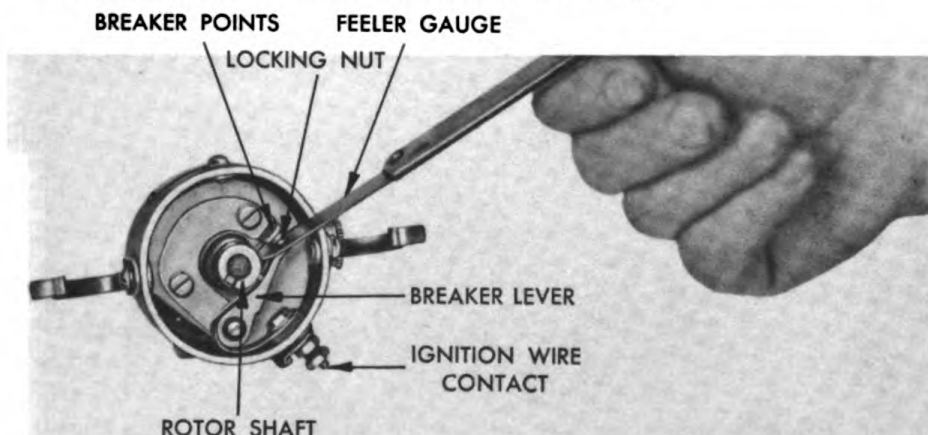

Figure 276. Checking Distributor Contact Gap.
- e. Adjust the contact gap by turning the cam so that the rubbing block is on high point. Adjust the stationary contact so that the gap is approximately .020". Turn the cam and check the alignment of the contacts. Bend the stationary contact bracket to secure perfect alignment. Then turn the cam to the maximum point opening and adjust the stationary contact so that gap is .018" to .020" as shown in figure 276. Tighten the locknut and recheck in the gap.